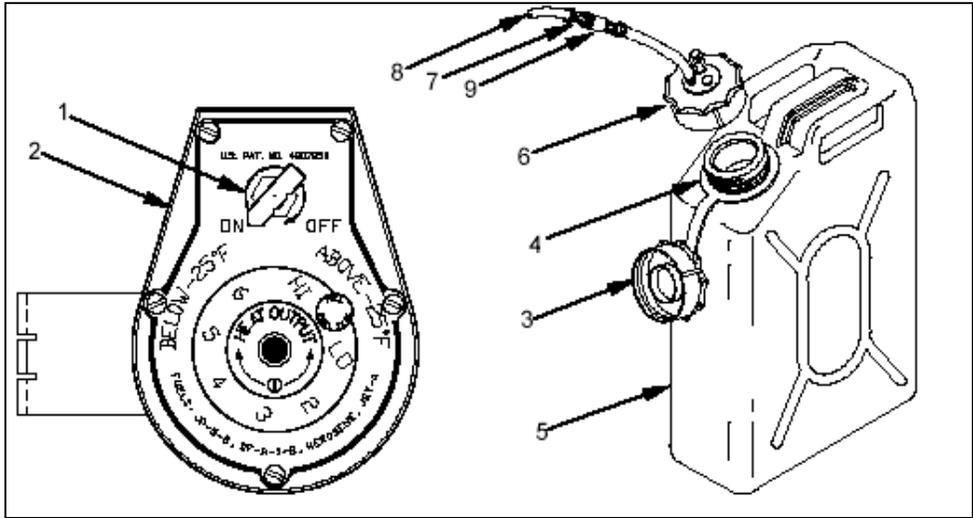

Figure 7
(4) Install Gravity Feed Adapter In Fuel Can (See Figure 7)